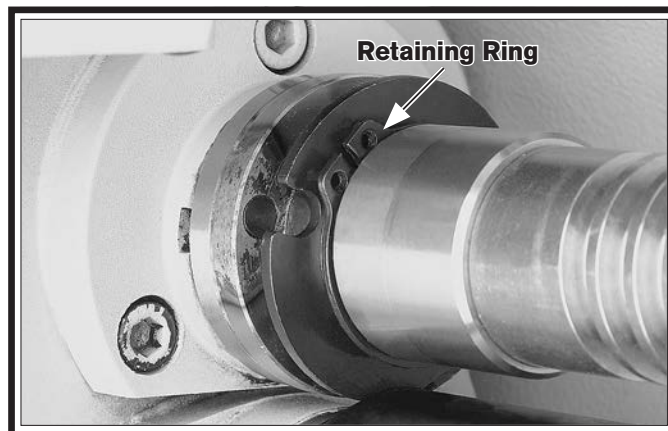

Figure 141. Shear pin access.
5. Move the retaining ring shown in **Figure 141** away from the shroud washer, then move the shroud washer away from the shear pin and against the retaining ring. This will create room for you to remove the shear pin.